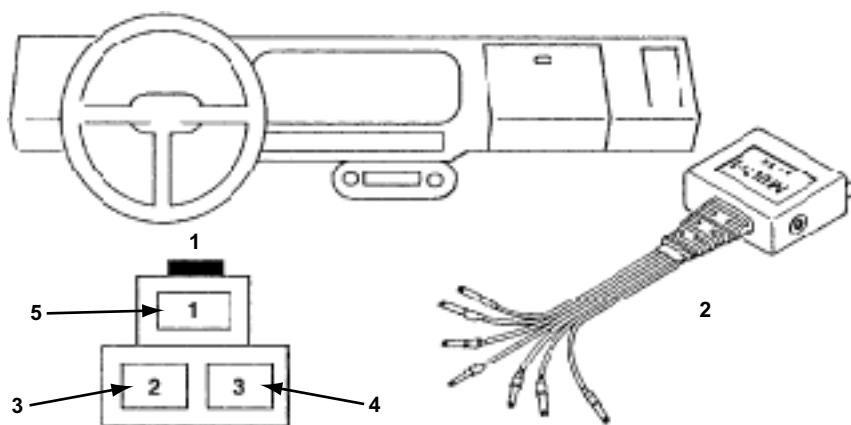

Figure 10-10 1988–89 Impulse connector and adapter
- Connect the MULTI-1 adapter with the white terminal converters (Figure 10-10).